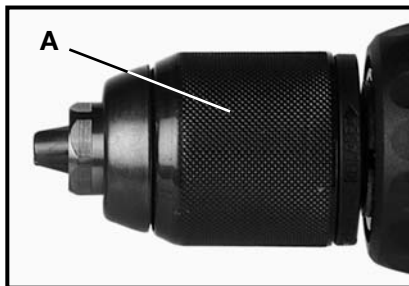

Fig. 2
1. The three-jaw chuck is designed for self-centering of the bit. Open jaws large enough by turning the sleeve (A) Fig. 2 counterclockwise, when viewing the chuck from the bit end, so that the bit shank can be inserted easily.
3. While holding the bit with one hand, turn the sleeve (A) Fig. 2 clockwise until the bit is gripped in the chuck.
4. Tighten the chuck by turning the sleeve (A) clockwise. Tighten securely.